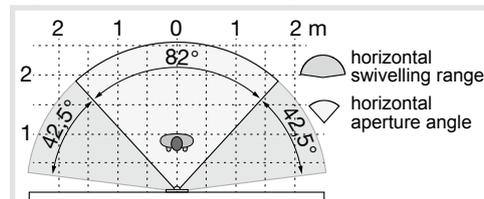

Figure 16: Horizontal camera alignment
- Align camera (figure 16/17). The entrance area is clearly visible on the display of the indoor station.
- Fix camera again with screw (4).